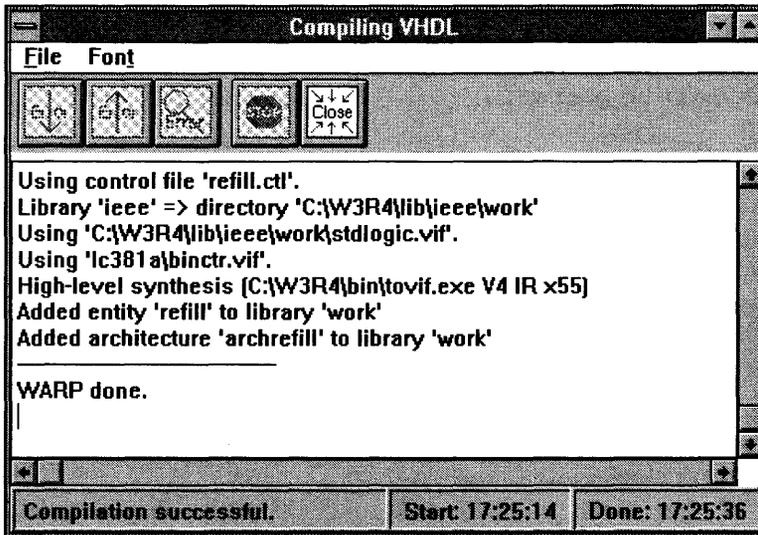

Figure 3-6 A successful *Warp* compilation
*Warp* runs, printing messages to keep you apprised of its progress. The verification process should run to completion without any error messages. A snapshot of this window is shown in Figure 3-6.